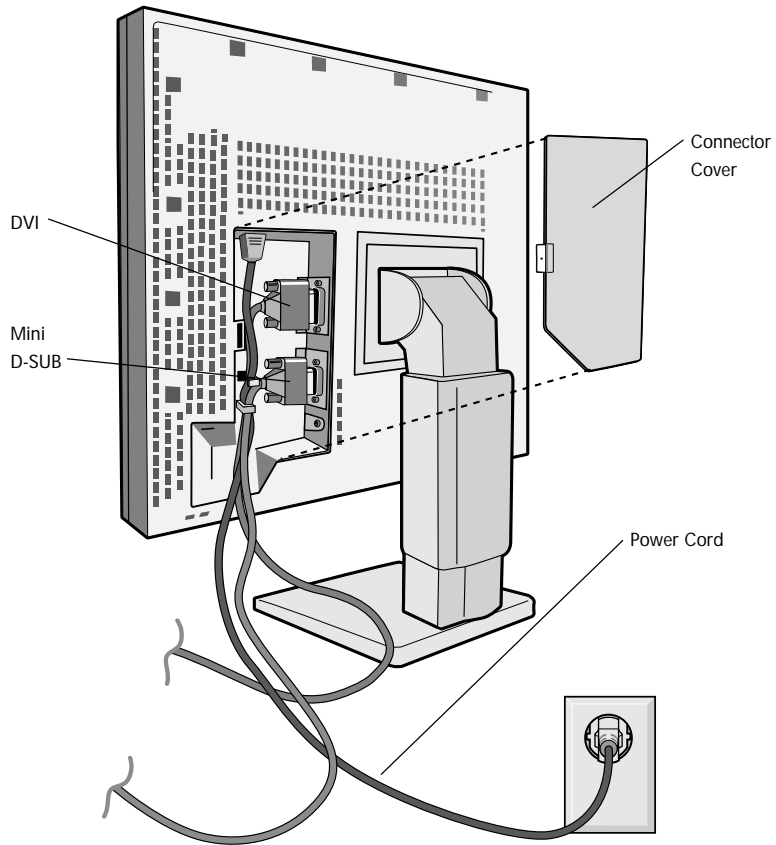

Figure C.1
3. Remove connector cover. Connect the DVI signal cable to the connector on the back of the monitor. Connect the 15-pin mini D-SUB signal cable (not included) to the connector on the back of the monitor. Place the video signal cable (Figure C.1).
4. Connect one end of the power cord to the AC inlet on the back of the monitor and the other end to the power outlet (Figure C.1).